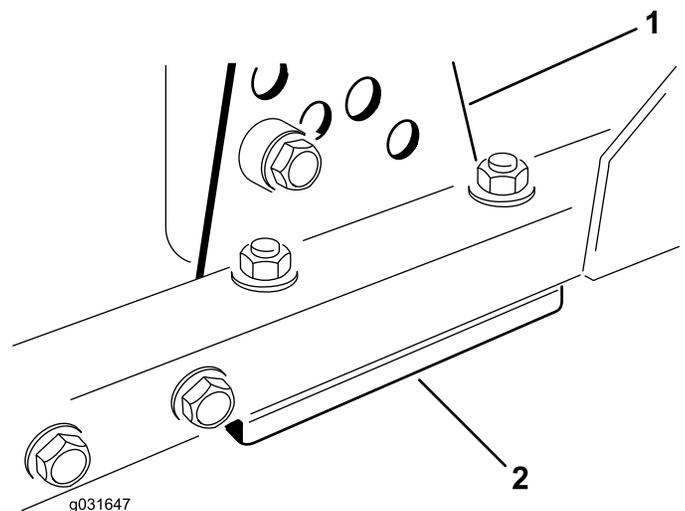

Figure 70
1. Remove the height-of-cut bracket (front, left, or right) from the cutting unit frame (Figure 70).
- Adjust the 1.5 mm (0.06 inch) shims and/or 0.7 mm (0.03 inch) shim between the cutting unit frame and bracket to achieve the desired height of cut (Figure 70).
- Install the height-of-cut bracket to the cutting unit frame with the remaining shims assembled below the height-of-cut bracket (Figure 70).